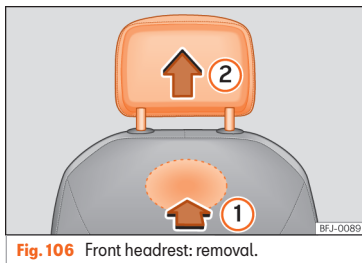

Fig. 106 Front headrest: removal.
- To unlock it, look for the rabbit on the bottom of the backrest and press in the direction of the arrow »» Fig. 106 ①.
- Remove the head restraint in the direction of the arrow ②.